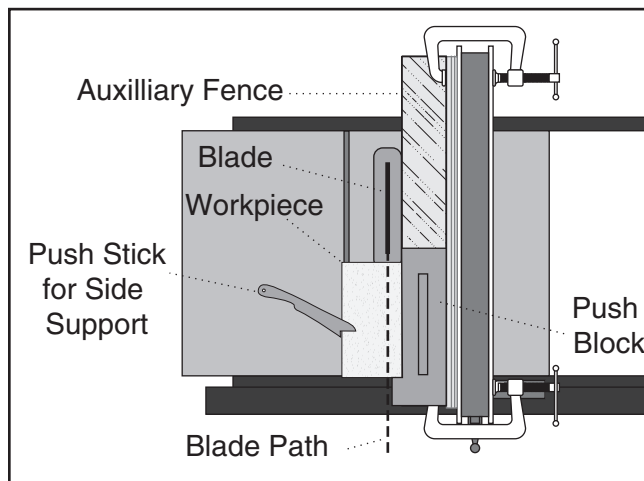

Figure 84. Push block in position to push workpiece through blade.
3. Place workpiece 1" behind blade and evenly against table and auxiliary fence (see **Figure 84**).